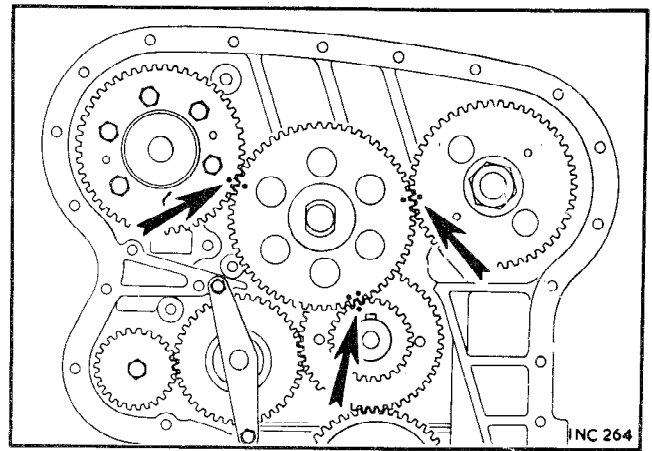
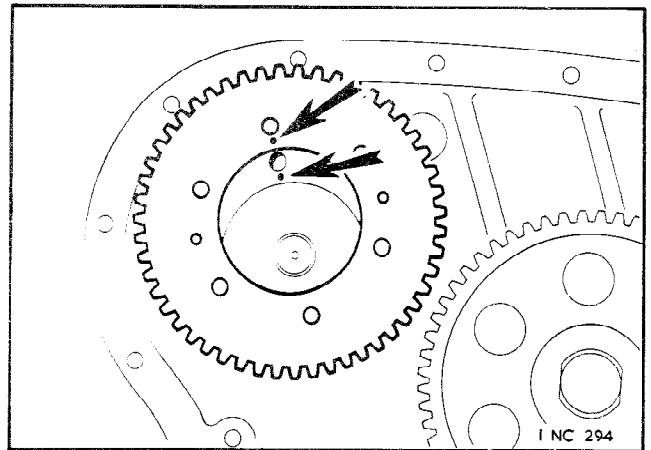

Fig. 2
Fig. 3
- b. Disengage the main idler gear, fit the injection pump drive gear to its hub with the hub and gear timing marks aligned as shown in Fig. 3. Engage the main idler gear so that the timing gears are positioned as shown in Fig. 2.